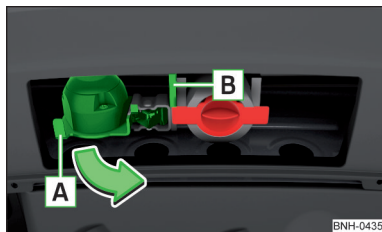

Fig. 114
- Grip the 13-pin socket on the handle **[A]** and swing out in the direction of the arrow » Fig. 114.
- Unhook the breakaway cable of the trailer from the security lock slot **[B]** » Fig. 114.
- Grip the 13-pin socket on the handle **[A]** and swing in the opposite direction to the arrow » Fig. 114.